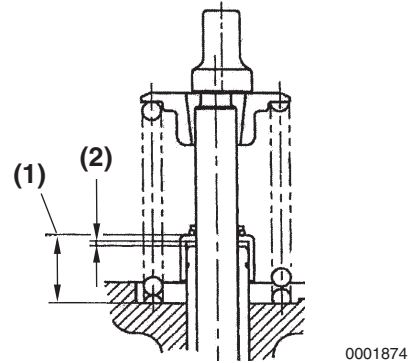

Figure 6-65
2. Measure the distance (Figure 6-65, (1)) from the cylinder head to the valve stem seal to ensure proper clearance (Figure 6-65, (2)) between the guide and seal. See *Intake / Exhaust Valve and Guide* on page 6-7.